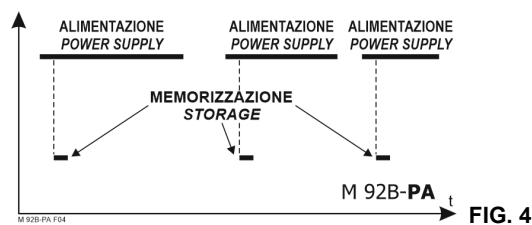

FIG. 4
- 2) with daily interruption (Fig. 4)